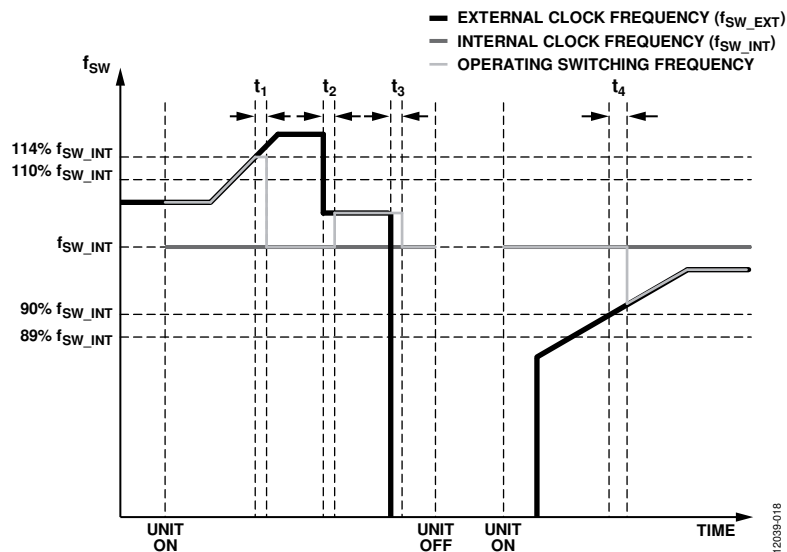

Figure 15. Synchronization Operation
2. If all periods of the most recent 64 consecutive cycles of the external clocks fall within 90% to 110% of the internal switching clock period, the ADP1050 uses the latest current cycle as the synchronization reference, and the period of the external clock is identified. This interval is t_2 or t_4 , as shown in Figure 15. Otherwise, the ADP1050 discards this cycle and looks for the next cycle (frequency capture mode).
returns to the internal clock set by the internal oscillator. This interval is t_1 or t_3 , as shown in Figure 15.
Figure 15 shows the synchronization operation diagram. The internal frequency, f_{SW_INT} , is the internal free-running frequency of the ADP1050. Before the synchronization is locked, the ADP1050 runs at f_{SW_INT} . The external frequency, f_{SW_EXT} , is the frequency of the external clock to which the ADP1050 must synchronize. After synchronization is locked, the ADP1050 runs at f_{SW_EXT} .